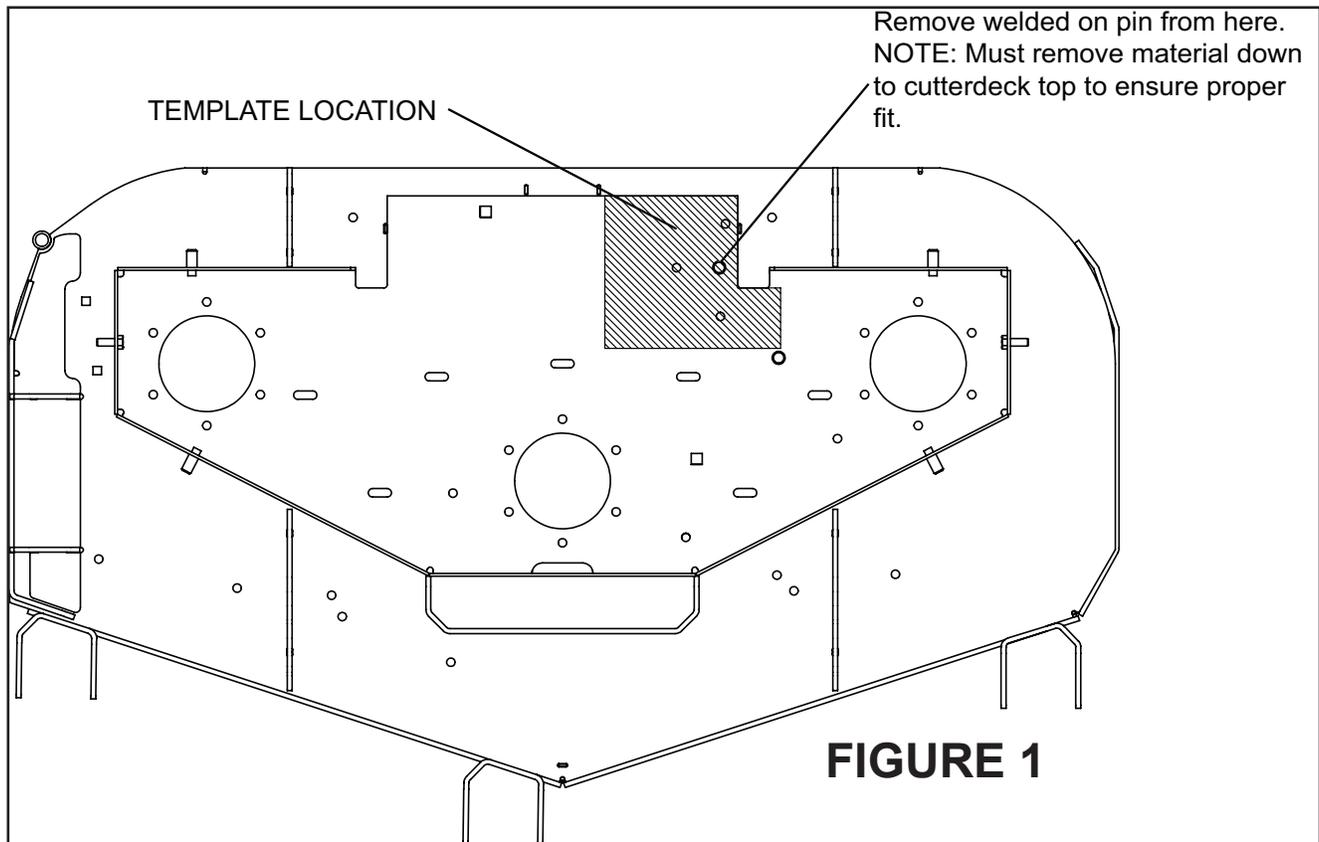

FIGURE 1
4. Remove the idler pivot post from the deck by grinding the weld off flush with the deck top. See **Figure 1** for pin location.
5. Cut out the supplied template (**35**) and use it to mark the locations to drill three 3/8" holes for the new idler pin weldment. Drill the holes. **FIGURE 1** Install the new idler pin weldment (**5**) using three 3/8 X 1-1/4 carriage bolts (**28**) and three 3/8 nylon lock nuts (**33**).